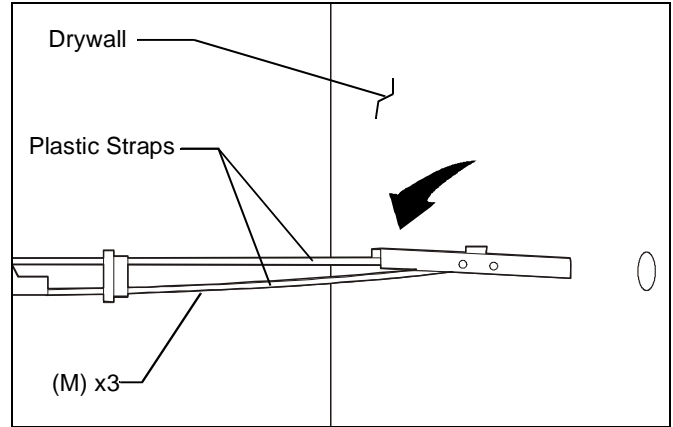

Figure 5
6. Hold metal channel on anchor (M) flat alongside plastic straps and slide channel through hole. (See Figure 5)